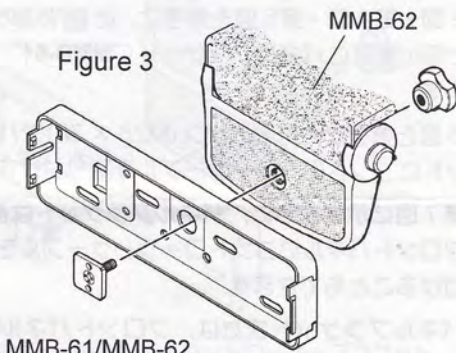

Figure 3
4. Referring to Figures 3~5, mount the sub-panel nest to the mounting location.